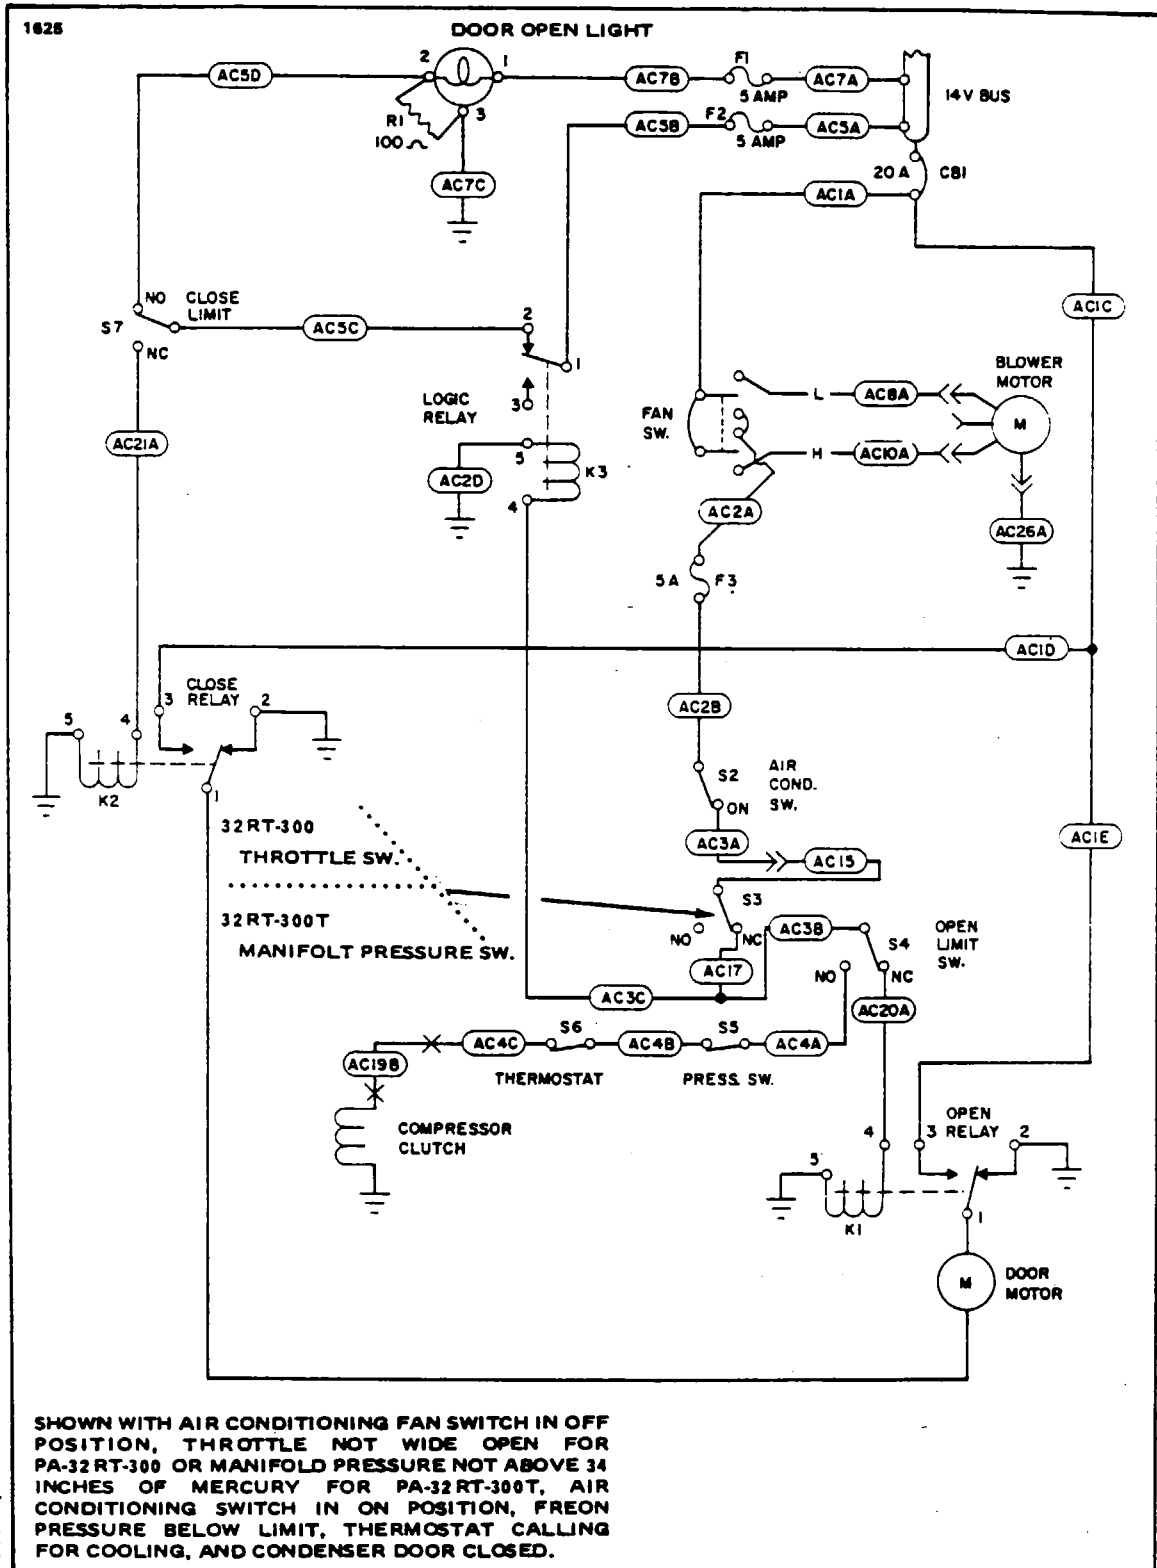

Figure 14-15. Air Conditioning Wiring Schematic
- h. Make and check electrical connections. (Refer to Figure 14-15.)